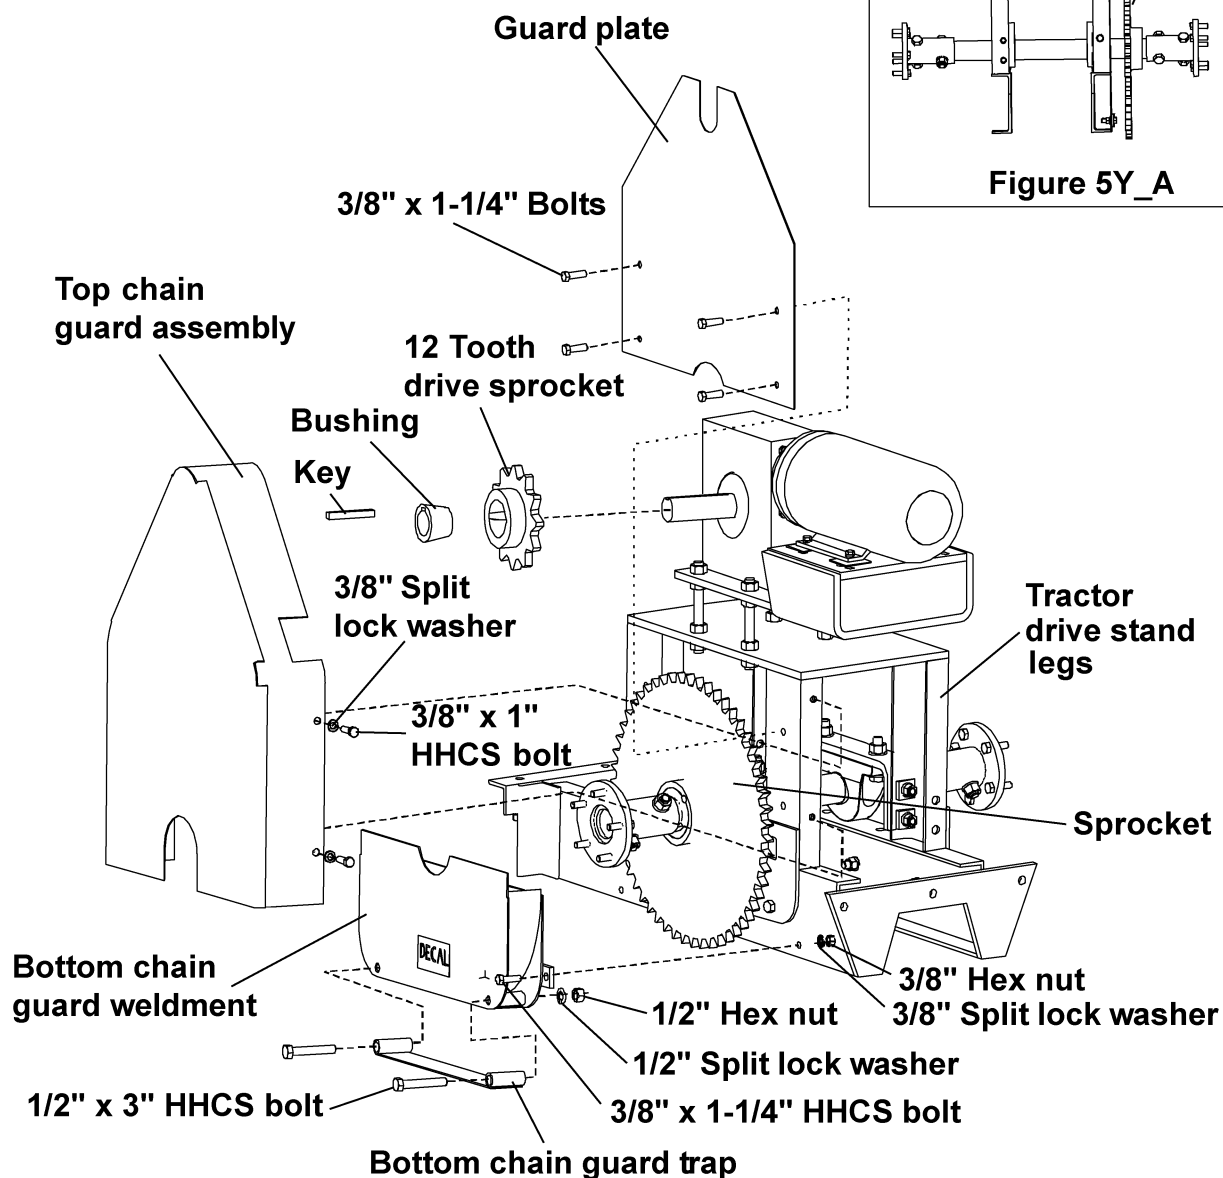

Figure 5Y
- Attach the Guard Plate to the Tractor Drive Stand Legs using 3/8" bolts and nuts before attaching the drive sprocket. (See Figure 5Y on Page 40.)
- Slide the twelve tooth drive sprocket, bushing, and key (see key chart for your size key) onto the output shaft of the reducer, make sure both sprockets line up. (See Figure 5Y and Figure 5Y_A on Page 40.)
- Attach Top Chain Guard Assembly to Tractor Drive Stand using 3/8" x 1" bolts, 3/8" split lock washers and 3/8" hex nuts. (See Figure 5Y on Page 40.)